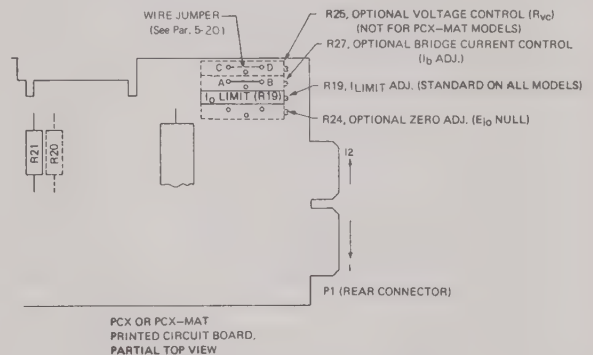

FIG. 5-2 LOCATION OF MOUNTING SPACES FOR OPTIONAL CONTROLS
5-7 Models ordered with these controls factory installed bear the suffixes "R" (for R27), "E" (for R24), or a four place suffix "8000" (for R25). The installation instructions may be disregarded for these models. DISCONNECT POWER SUPPLY FROM THE AC INPUT POWER SOURCE. Before installation, remove the printed circuit board as described in paragraph 5-3. Locate predesignated spaces for the controls by referring to FIG. 5-2. Proceed as directed in the applicable paragraphs below.
- Insert 1 K ohm in the space outlined on FIG. 5-2. Solder in place and turn R27 to its approximate midposition. Reinstall the circuit board, and return power supply to the plug-in adaptor.
- Install a precision resistor (R_{VC}) across barrier-strip terminals (4) and (9) and connect a precision voltmeter across the output terminals (5) and (6).^{*} Since the bridge current (I_b) is a nominal 1 mA, and the control ratio is 1 K ohm/V, the output voltage E_o will be approximately equal to $E_o = I_b R_{VC}$. (i.e., for each 1000 ohms of voltage control resistance [R_{VC}], one volt of output voltage will appear across the output terminals.)
- b) Locate appropriate space on the printed circuit board (refer to FIG. 5-2), remove the wire jumper, and solder the selected rheostat in place. The value of the rheostat will depend on the desired output voltage, i.e., for each 1000 ohms of resistance, 1 volt of output will be produced.
- b) Locate R19 (Refer to FIG. 5-2) Slowly turn the control counter clockwise until a sharp increase in output ripple is observed, indicating the operation of the power supply in the current limit mode. Set control slightly clockwise again until the output ripple appears just normal again.